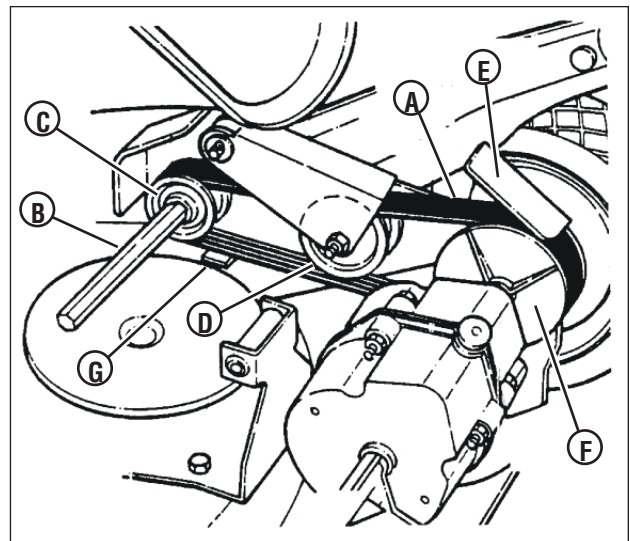

Figure 33: Poly-v belt routing
3. Place the new Poly-V Belt (A, Figure 33) over the end of the hex shaft (B) and onto the drive pulley (C).
4. Work the belt onto the top of the idler pulley (D).
5. Twist the belt sideways and pull it upward between the differential bracket (E) and driven pulley (F) and then down into the pulley groove. Make sure the Poly-V Belt is above the belt guide (G).